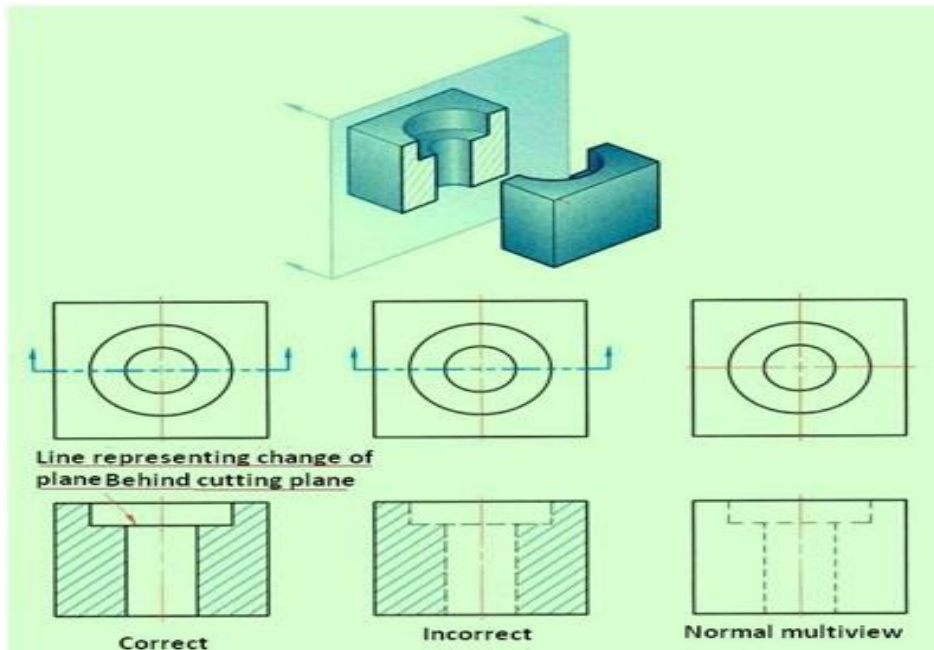

Figure 6 Correct and incorrect representation along with the multiview drawing
- Figure 6 illustrates a full section view of an object.
- Figure 6 shows a section view for which the cutting plane passes through the center of a counter bored hole. A line represents the change of planes between the drilled and counter bored holes and is an example of a visible feature that is behind the cutting plane.